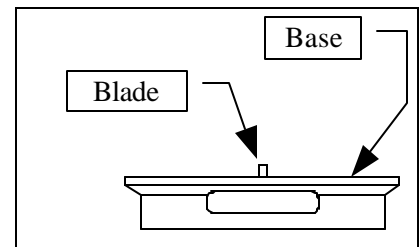

Fig. 10 Shape of gauge ring
- The P Series Super 300 Type Pillar Fitting (for 1-1/4", 1-1/2") is provided with a gauge ring to facilitate controlling the tightening range and limit, thereby ensuring safe and proper tightening (Figure 10).
Note: In removing the fitting, circularly move the tube like first drawing small circles and then gradually drawing larger circles (Figure 10). If you greatly twist the tube to left or right or if you circularly moves the tube like suddenly drawing large circles, then only the sleeve may remain on the main body, hindering you from retightening the tube.